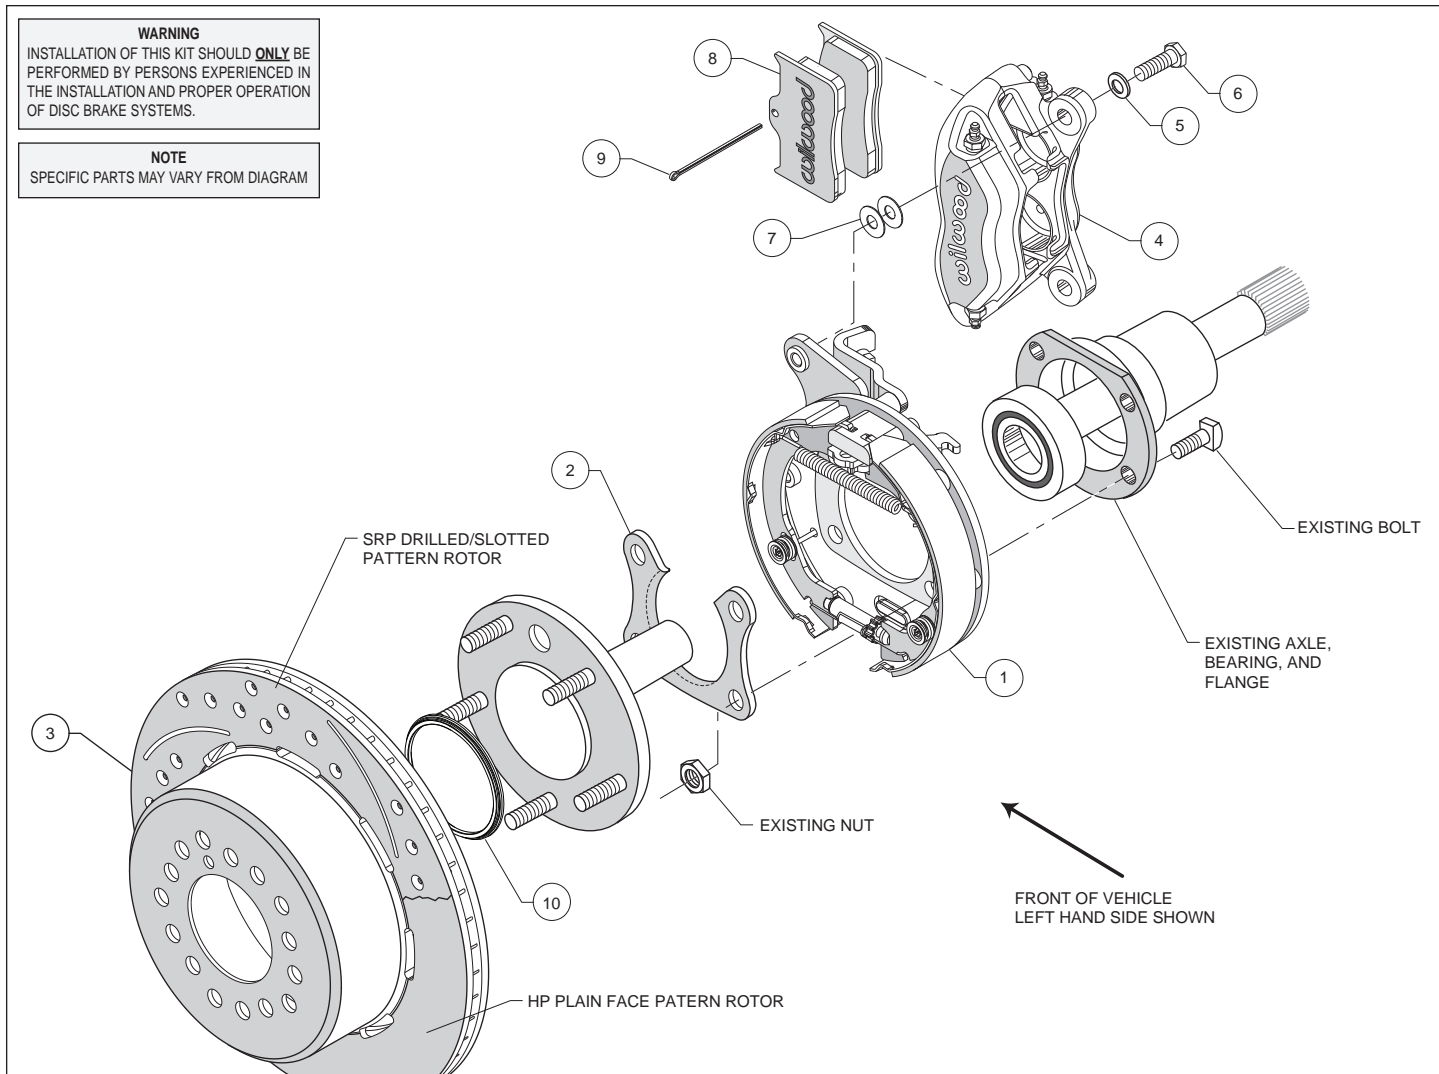
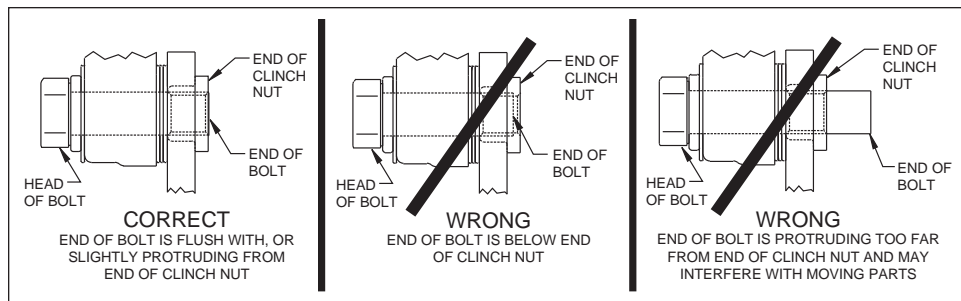

Figure 1. Typical Installation Configuration
Figure 5. Clinch Nut Engagement Diagram
**Assembly Instructions** (numbers in parenthesis refer to the parts list, and Figure 1 on the preceding pages): **CAUTION:** All mounting bolts must fully engage clinch nuts. Be sure to check that all bolts are either flush or protruding through flanged side of clinch nut after shimming, Figure 5.
- Orient the bracket assembly (1) as shown in Figure 1 and Photo 1 and slide it onto the axle. Insert the axle and bracket into the axle housing. Ensure that the bracket assembly backing plate fits flush against the axle housing flange.
- Install the bearing retainer (2) with the opening pointing upward and the lip facing inward (toward the bearing), as shown in Figures 1 and 4, and Photo 2. Secure retainer and bracket assembly to the axle housing flange using the Original Equipment Manufacturer (OEM) bolts and nuts, Figure 1. Apply red *Loctite*® 271 to the OEM bolt threads and torque to OEM specifications.
- Slide the rotor registration adapter (10) onto the axle register on the axle flange with the smaller O.D. facing toward the rotor/hat (3), Photo 3. Align the correct hole pattern in the rotor/hat with the stud pattern on the axle flange and slide into place, Figure 1 and Photo 4. **NOTE:** The rotor/hat must fit flush against the axle flange or excessive rotor run out may result. Install three lug nuts (finger tight) to keep the rotor/hat assembly in place while continuing with the installation. **NOTE:** Some OEM and after market axles come with stud sizes larger than 0.50" diameter. Verify stud size and have a qualified machine shop drill the bolt circle of the hat/rotor to the correct stud size, if necessary.
- NOTE:** Please reference the caution statement at the beginning of the assembly instructions. Mount the caliper (4) onto the caliper mounting bracket (1) using bolts (6) and washers (5), as shown in Figure 1. Initially place two .035" thick shims (7) on each bolt between the caliper and the bracket, Photo 5. Temporarily tighten the mounting bolts and view the rotor (3) through the top opening of the caliper. The rotor should be centered in the caliper, Photo 6. If not, adjust by adding or subtracting shims between the bracket and the caliper. Always use the same amount of shims on each of the two mounting bolts. **NOTE:** The end of each bolt must be flush with or slightly protruding from the head of the clinch nut, as shown in Figure 5. If necessary place spare shims between washer (5) and caliper mounting ear to achieve the proper clinch nut engagement. Once the caliper alignment and clinch nut engagement are correct, remove the bolts one at a time, apply red *Loctite*® 271 to bolt threads, and torque to 40 ft-lb.